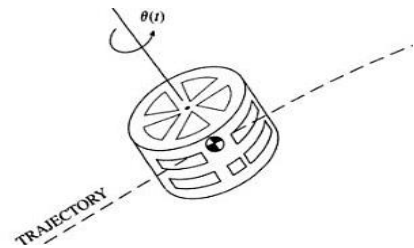

FIG: Q5B
- 5B.** Obtain the state space model for the single axis space craft as shown in figure Q5B, flying near-earth or an interplanetary trajectory. Moments acting on the spacecraft are control moment $M_C(t)$ and disturbance moment $M_D(t)$. **3**